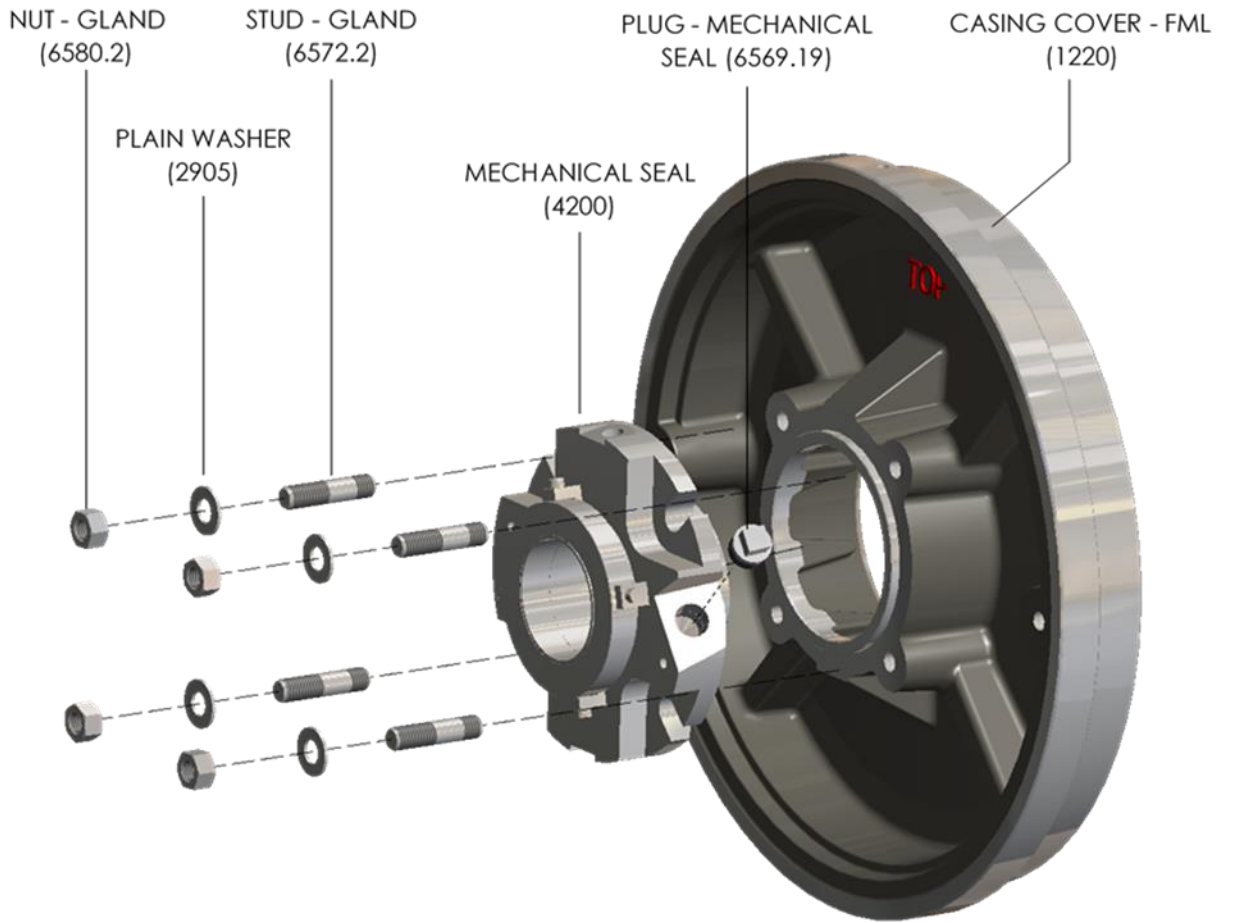

Figure 49: FML Cover with Cartridge Seal
3. Install the casing cover [1220] to the adapter [1340] with the word, "TOP" oriented, as shown in Figure 49 and 50, secure with (2) cap screws [6570.6]; token bolts. Now slide the mechanical seal to the casing cover [1220], using gland studs [6572.2], washers [2905] and gland nuts [6580.2], fasten the seal to the cover. Torque the gland studs to the value shown in the instructions supplied with the seal.